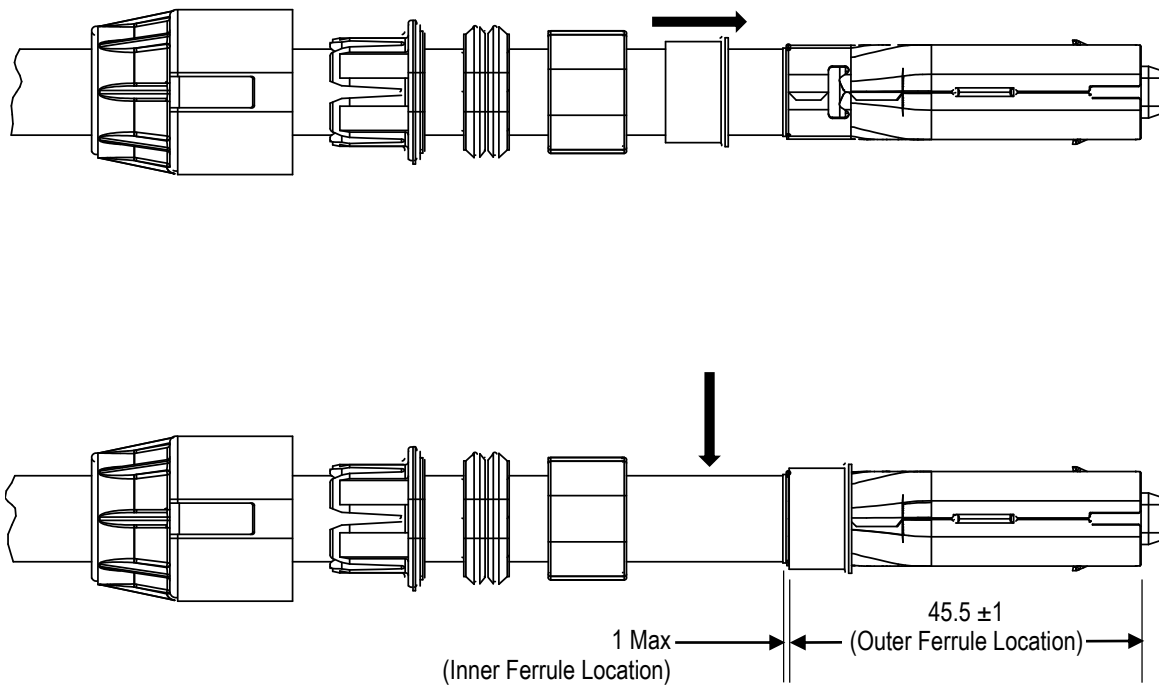

Figure 12
11. Slide the outer ferrule forward into position over the overlapping ends of the connector shields as shown in Figure 12.